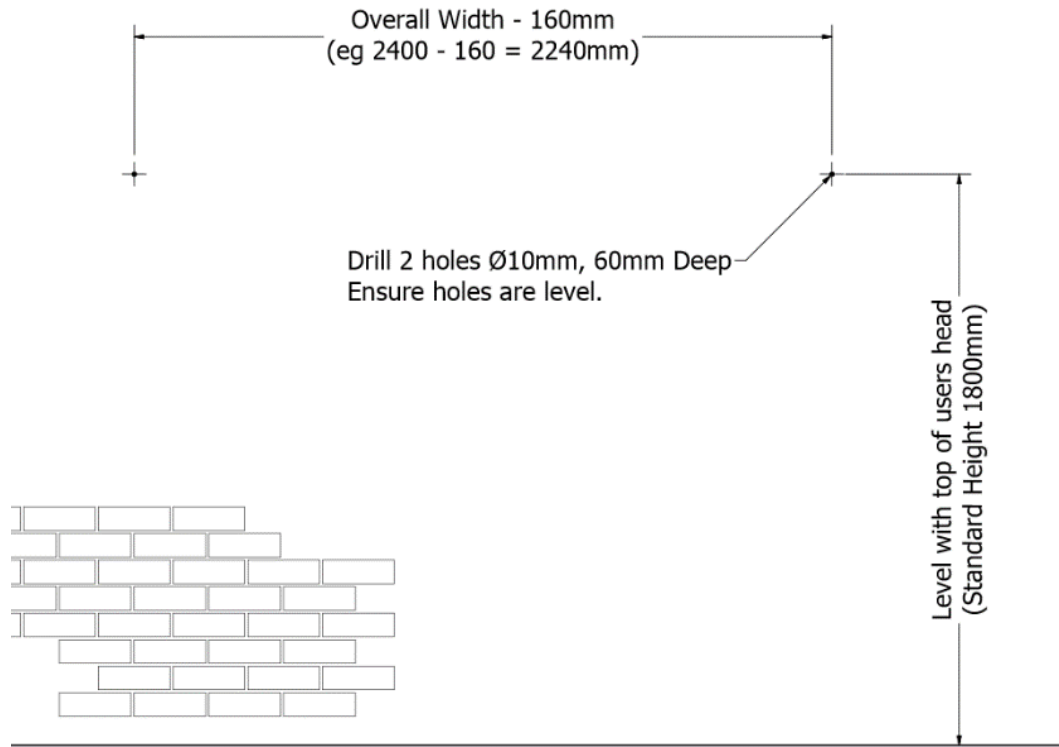

Figure 1 – Layout.
- Draw 2 vertical lines on the wall at a distance of 160mm less than the width of the clothesline purchased – e.g. for a 2400mm long line, mark at 2240mm, for a 3000mm line, mark at 2840mm. See Fig 1